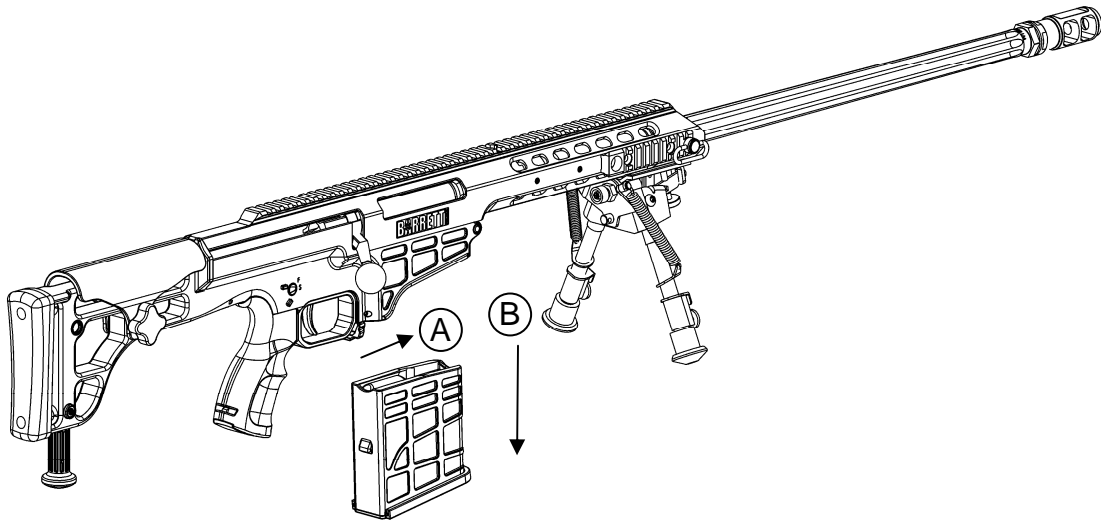

Figure 7.
3. Remove the magazine from the rifle by pressing the magazine catch and remove the magazine from the rifle. (Figure 7)